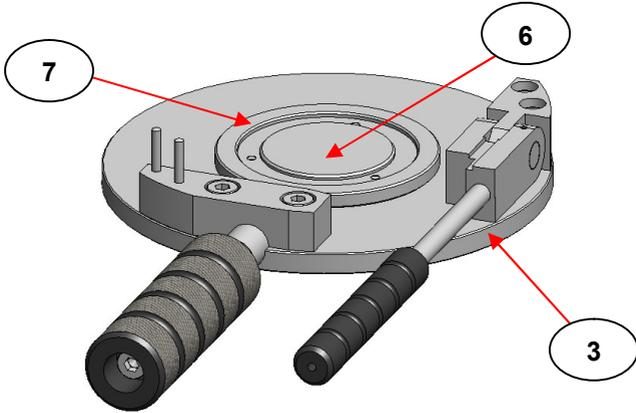

Fig 3. Spacer Ring Fitted to Lower Platen Pressing Assembly
Locate the chosen spacer ring (7) on the lower platen pressing assembly (3) of the Film Maker Accessory, around the central raised polished surface (6). (See Fig 3.) It does not matter which way up the spacer ring (7) locates but it helps for a consistent sampling procedure if the spacer ring is **always located the same way up** between sampling. The orientation of the engraved letter on the spacer ring (7) (whether it is up or down when being used) can act as a reference.